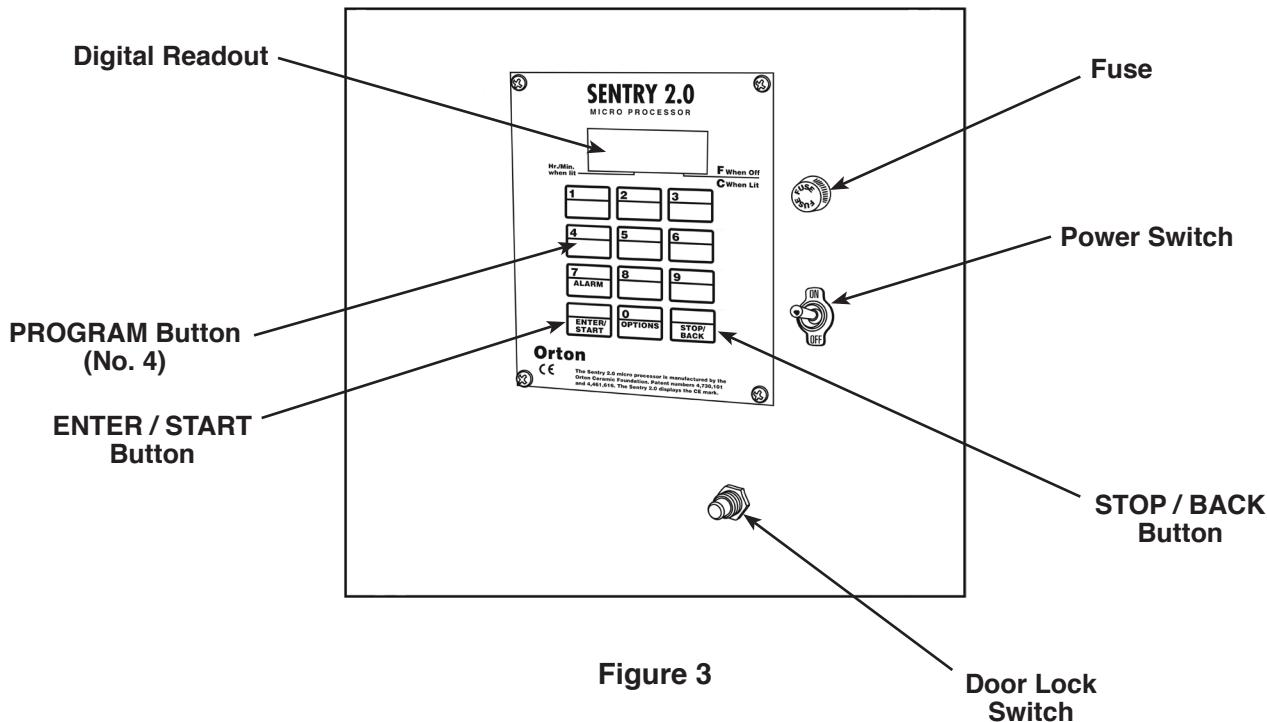

Figure 3
1. Turn ON the power switch on the control panel. See Figure 3.